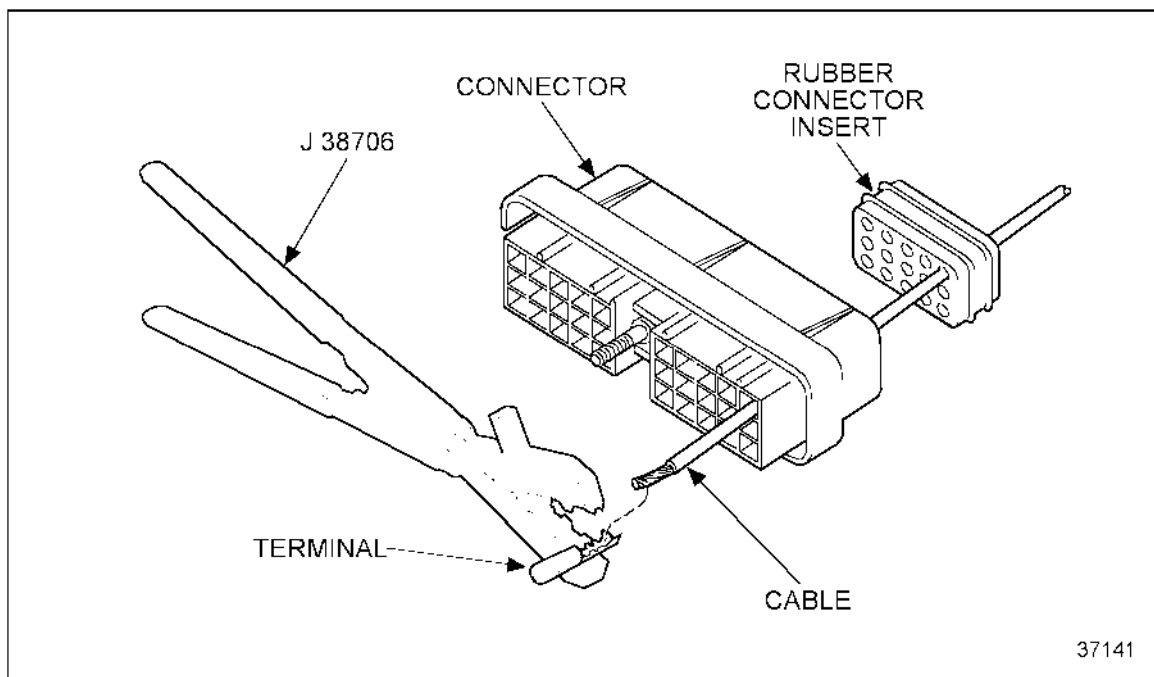

Figure 3-38 Typical Terminal Position
3. Insert the terminal into the locating hole of the crimping tool using the proper hole according to the gage of the cable to be used (see Figure 3-38).